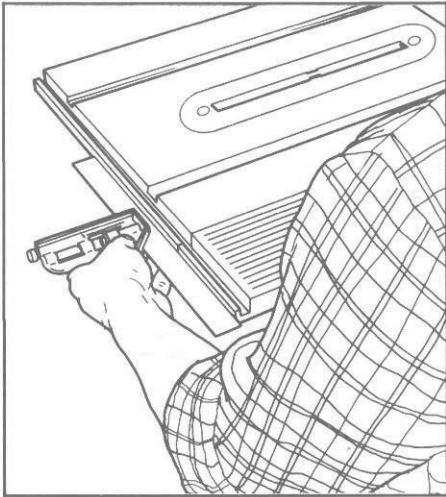

Figure 22. Checking that the extension table bar is lined up with the bar on the worktable.
d. To check that the extension table bar is lined up with the bar on the worktable, lay a straightedge across both bars. (See Figure 22.) The straightedge should rest flush against the extension table bar and the worktable bar. If it doesn't, adjust the extension table bar.